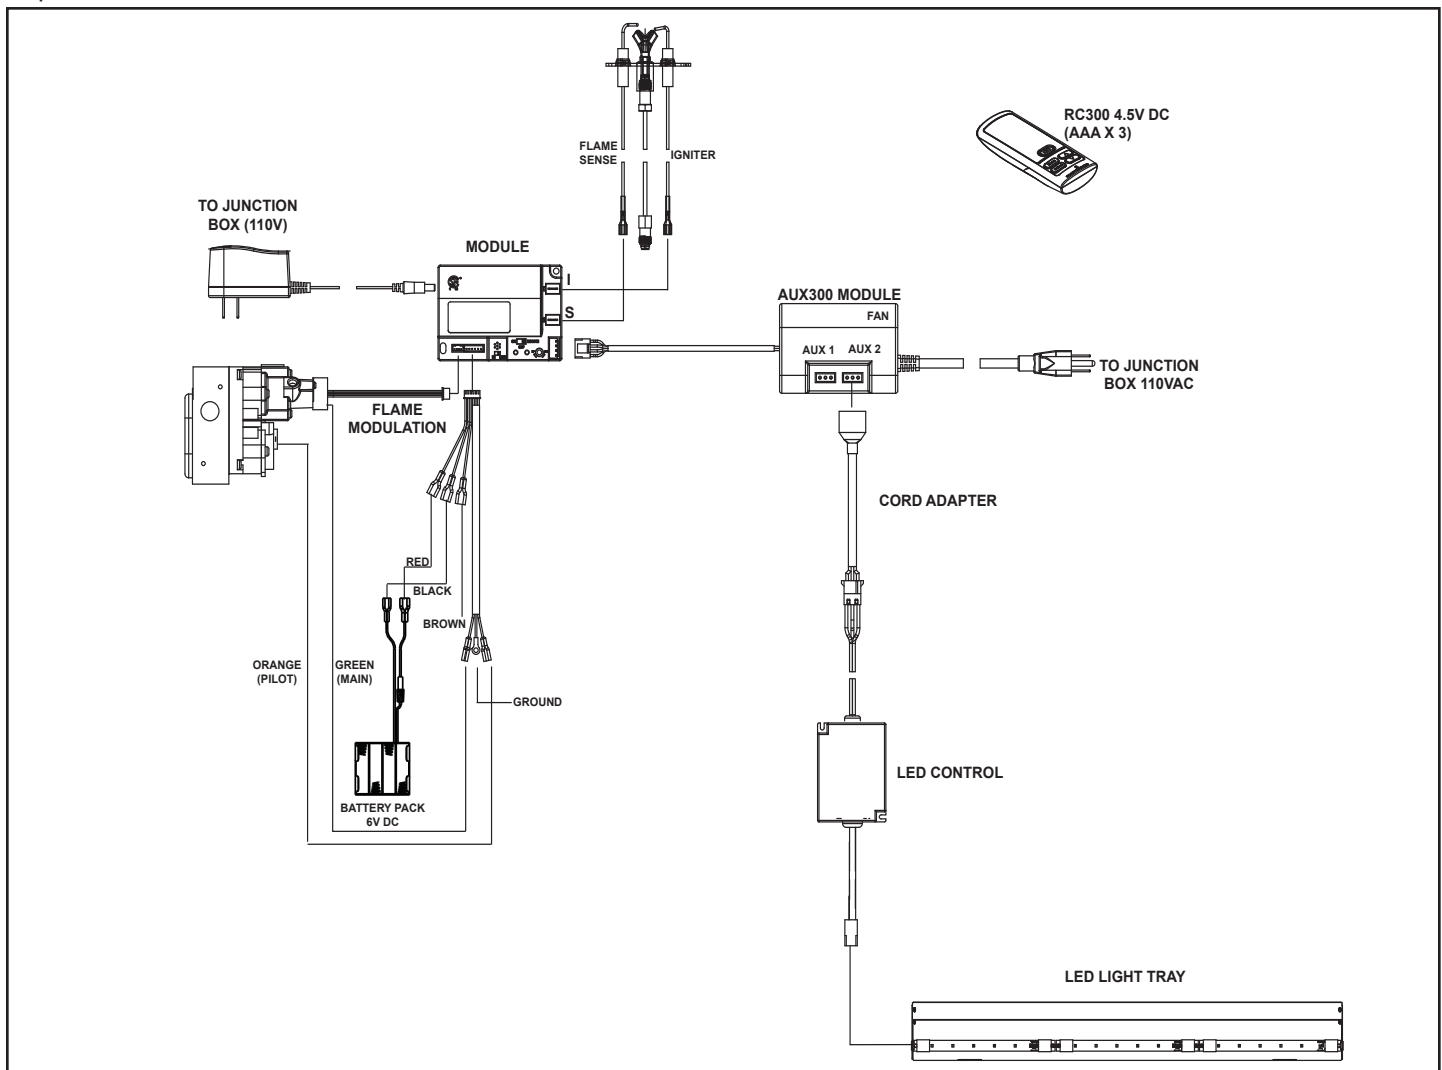

Figure 8.3 IntelliFire™ Plus Wiring Diagram with Remote
- Refer to Figure 8.3, IPI Wiring Diagram.